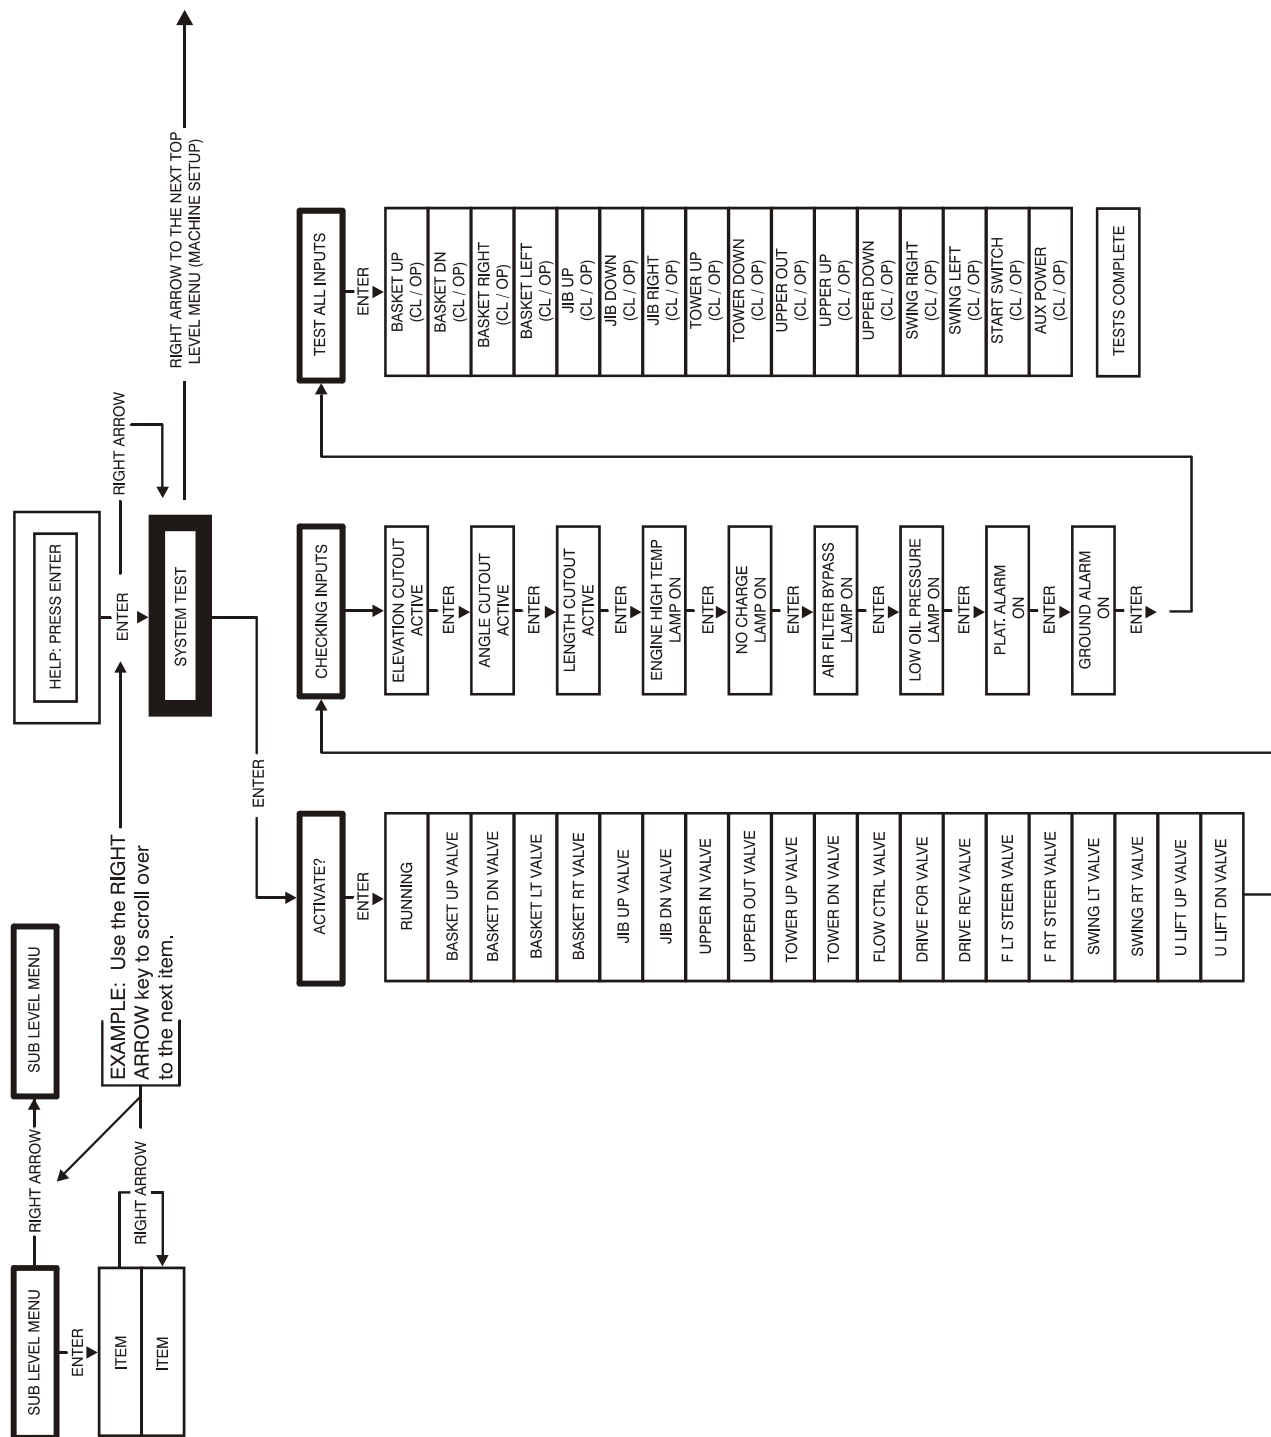

Figure 6-15. System Test Flow Chart - Ground Station Tests
6. Follow flow path in Figure 6-15., System Test Flow Chart - Ground Station Tests and go through component tests. Press ESC key during any part of test to return to main menu without completing all tests or wait until all tests are complete. During TEST ALL INPUTS sequence, the analyzer allows control switches to be operated and shows if they are closed (CL) or open (OP).